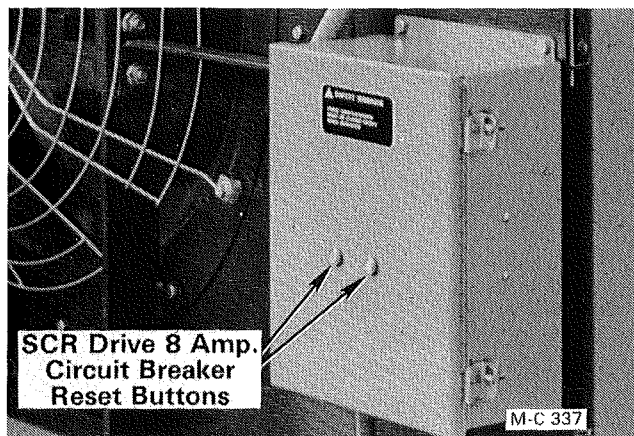

Figure 23A
6. Flip the moisture control toggle switch to the "MANUAL" position. This will activate the SCR Drive Motors and the metering rolls will start. The dryer will begin unloading grain. If the SCR Drive motors do not start, push in the SCR Drive circuit breaker reset buttons, see Figure 23A.